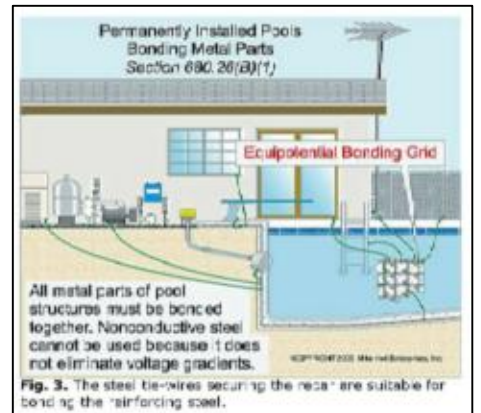

Fig. 3. The steel tie-wires securing the rebar are suitable for bonding reinforcing steel.
1. ALL METALLIC PARTS OF REINFORCING METAL NOT ENCAPSULATED WITH A NONCONDUCTIVE COMPOUND. THE USUAL STEEL TIE-WIRES THAT SECURE REBAR TOGETHER ARE CONSIDERED SUITABLE FOR BONDING THE REINFORCING STEEL TOGETHER (FIG. 3 ON PAGE 46). WHERE CONDUCTIVE REINFORCING STEEL OF THE PERMANENTLY INSTALLED POOL, OUTDOOR SPA, OR OUTDOOR HOT TUB SHELL AND DECK IS NOT AVAILABLE, YOU MUST PROVIDE AN ALTERNATIVE MEANS IN ACCORDANCE WITH 800.28(C) TO ELIMINATE VOLTAGE GRADIENTS THAT WOULD OTHERWISE BE PROVIDED BY UNENCAPSULATED, BONDED REINFORCING STEEL.